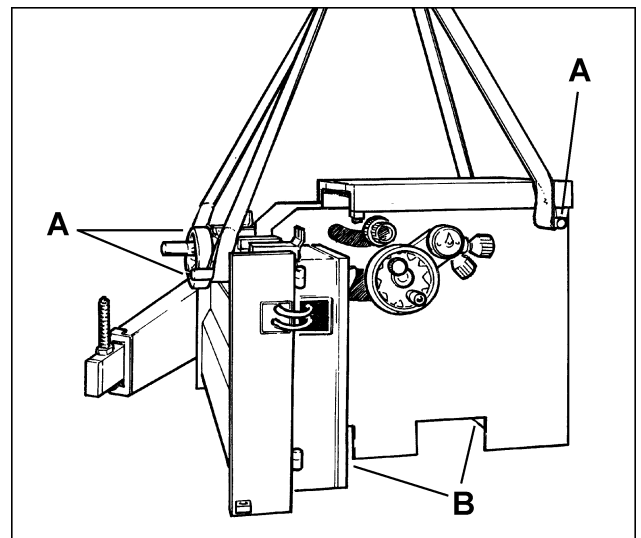

FIGURE 4
1. Place steel rods (A-Fig. 4) through the three holes in the machine frame. The machine can then be lifted off the pallet with hoist or forklift, by using slings passed under the rods. When the machine is sitting on the ground, it can be lifted by removing the bottom cover plate and sliding forks under the two openings (B-Fig. 4).